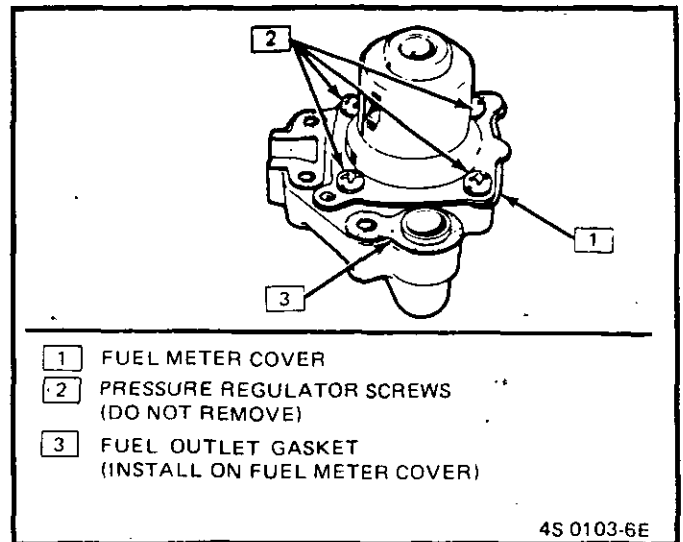

Figure C2-10 - Installing Fuel Meter Cover
2. New fuel outlet passage gasket (Figure C2-10, 13E), on fuel meter cover.
3. New fuel meter cover gasket (Figure C2-10, 13D), on fuel meter body.